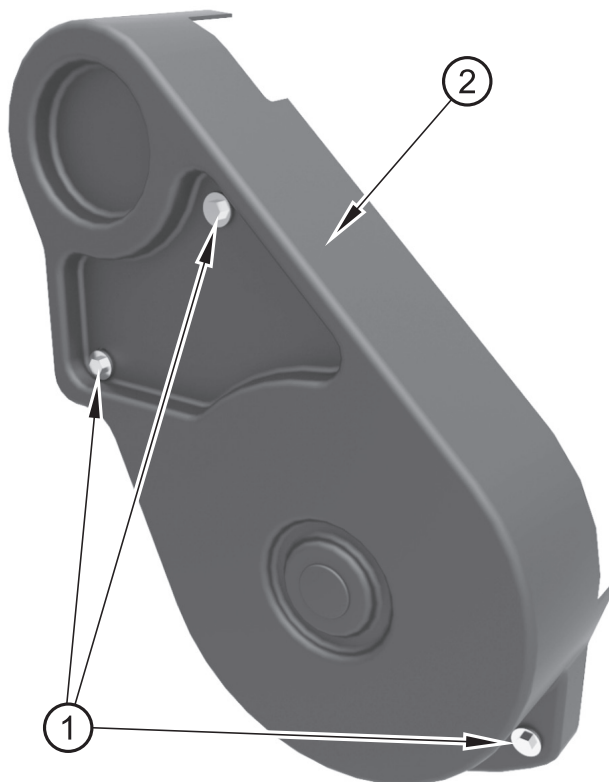

Figure 12
1. Undo the bolts (figure 12 item 1) and remove the guard (item 2).
3. Inspect the belt. Ensure that the belt tensioner is securely installed. Visually inspect the belt tensioner (item 1) for damage. Check that the pulley on the tensioner rotates freely and that the bearing is not loose. If necessary, replace damaged components.